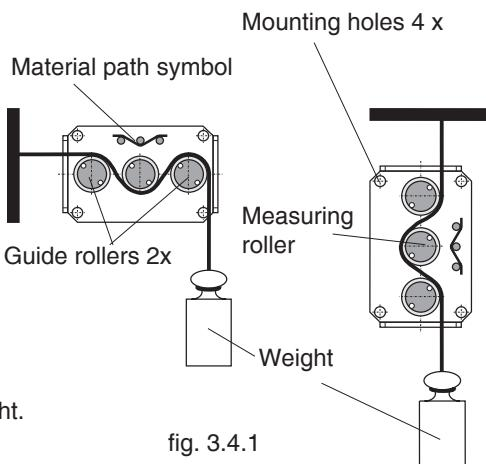

fig. 3.4.1
- Hang a weight that corresponds to e.g. 10% of the tension range (pay attention to the correct unit of measure) from the process material, vertically, as shown in fig. 3.4.1.(Always use a fresh portion of the material to be measured.)